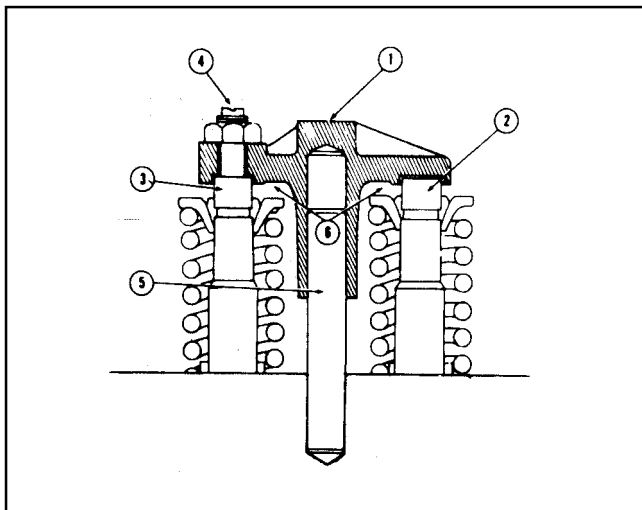

Fig. 7-14. Valve Crosshead
1. Loosen the valve crosshead adjusting screw locknut and back off the screw (4, Fig. 7-14) one turn.
1. Loosen the adjusting screw locknut, back off the screw (4, Fig. 7-14) one turn.
2. Use light finger pressure at the rocker lever contact surface (1) to hold the crosshead in contact with the valve stem (2). The adjusting screw should not touch the valve stem (3) at this point.
3. Turn down the adjusting screw until it touches the valve stem (3).
5. Check the clearance (6) between the crosshead and the valve spring retainer with a gauge. There must be a minimum of 0.025 inch (0.64 mm) clearance at this point.